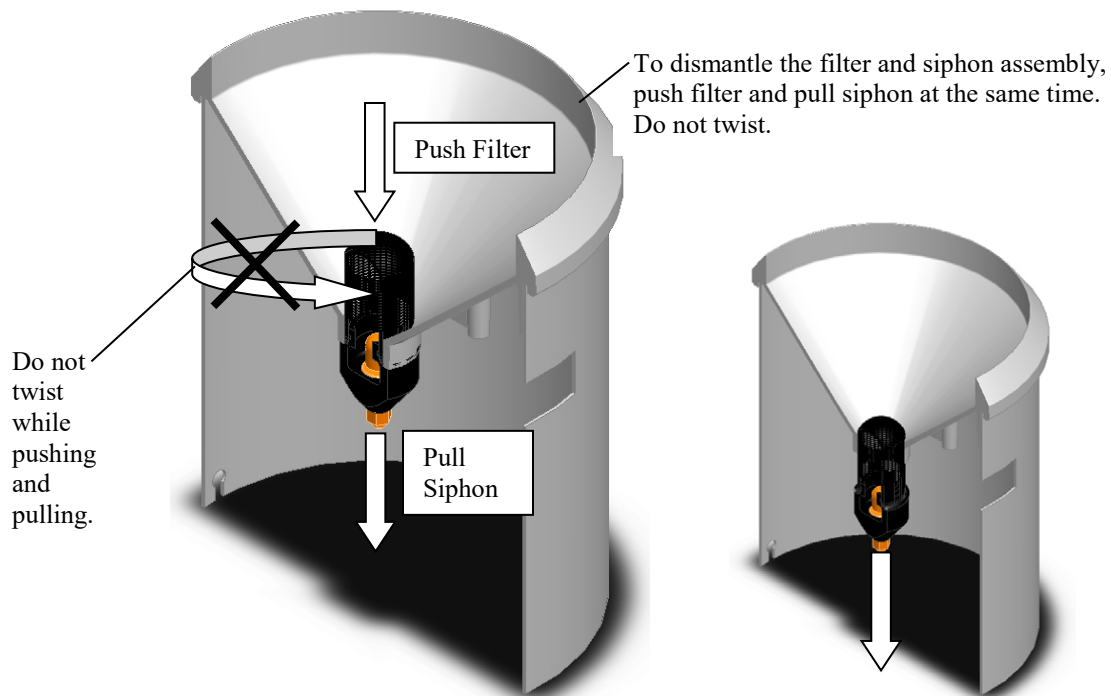

FIGURE 9-3. Dismantling the Filter/Siphon Assembly
2. Separate the filter/siphon assembly from the funnel by pushing the filter while pulling the siphon (FIGURE 9-3).